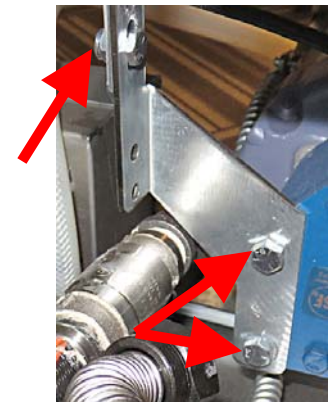

Figure 34
32. Use a 7/16" wrench to remove the nut and bolt from the filter pump shipping bracket (see Figure 34).
33. Use a 1/2" wrench to remove the two (2) bolts securing the filter pump bracket to the filter pump (see Figure 34). Discard the bracket.
34. Reinsert the two (2) bolts into the filter pump and tighten. Torque to 15 foot lbs. Do **NOT** overtighten.